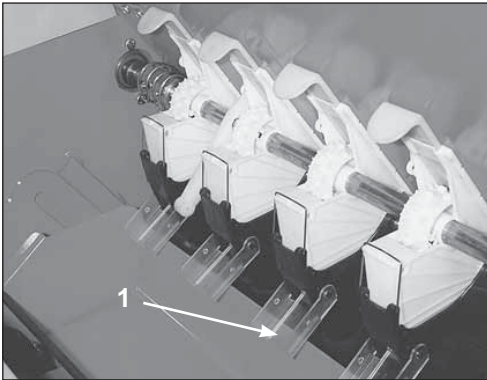

fig 15
- 2 Position all the clear plastic seed diverters to redirect the seed into the calibration trays as in Fig 15/1.